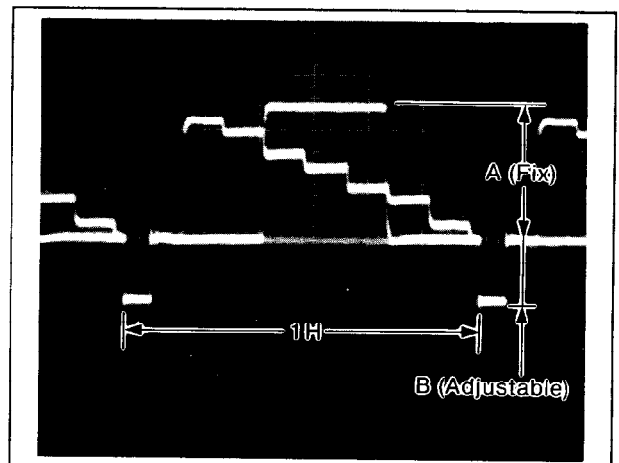

Fig. E26
4. Adjust VR9001 so that the ratio of video and sync "B/A" to be  $43 \pm 2\%$  as shown in Fig.E26.